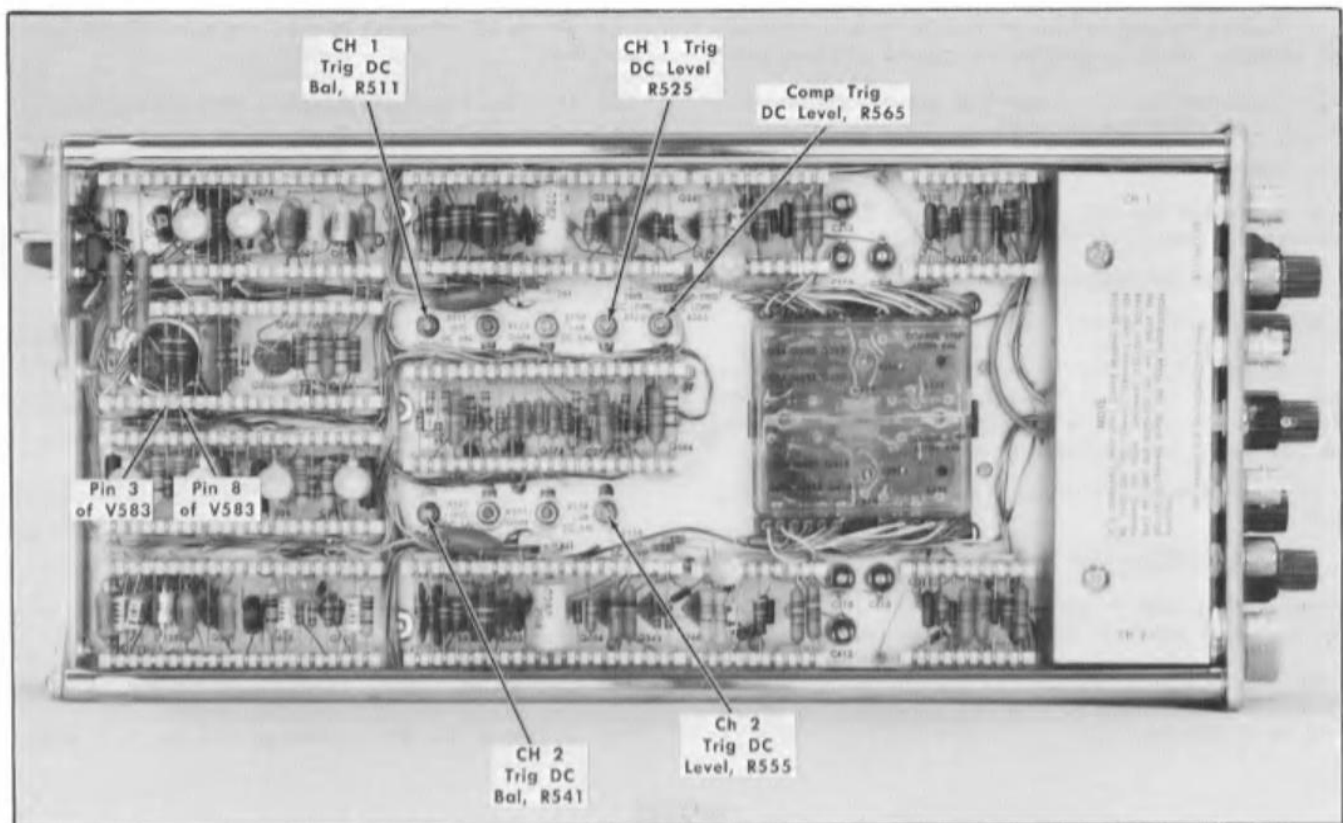

Fig. 6-21. Location of trigger amplifier test points and adjustments.
- f. Disconnect the  $10\times$  probe from ground and connect it to pin 8 of V583; see Fig. 6-21.
- h. Disconnect the  $10\times$  probe from pin 8 of V583 and connect it to pin 3 of V583; see Fig. 6-21.
- k. ADJUST—CH 1 Trig DC Bal R511, (see Fig. 6-21) for a zero potential between pins 3 and 8 of V583. Repeat parts f through j of this step until the check can be met.
- l. Connect the  $10\times$  probe to pin 8 of V583, see Fig. 6-21.
- n. ADJUST—CH 1 Trig DC level, R525, (see Fig. 6-21) for a ground potential indication on the test oscilloscope.
- u. Disconnect the 10× probe from pin 8 of V583 and connect it to pin 3 of V583; see Fig 6-21.
- x. ADJUST—CH 2 Trig DC Bal R541; (see Fig. 6-21) for a zero potential indication between pins 3 and 8 of V583. Repeat parts s through w of this step until the check can be met on the test oscilloscope.
- y. Connect the 10× probe to pin 8 of V583. See Fig. 6-21.
- aa. ADJUST—CH 2 Trig DC Level, R555, (see Fig. 6-21) for a ground potential indication on the test oscilloscope.
- ag. Disconnect the 10× probe from ground and connect it to pin 3 of V583, see Fig. 6-21.
- ai. ADJUST—Comp Trig DC Level, R565, (see Fig. 6-21) for a ground potential indication on the test oscilloscope.
- aj. Disconnect the 10× probe from pin 3 of V583 and connect it to pin 8 of V583; see Fig. 6-21.